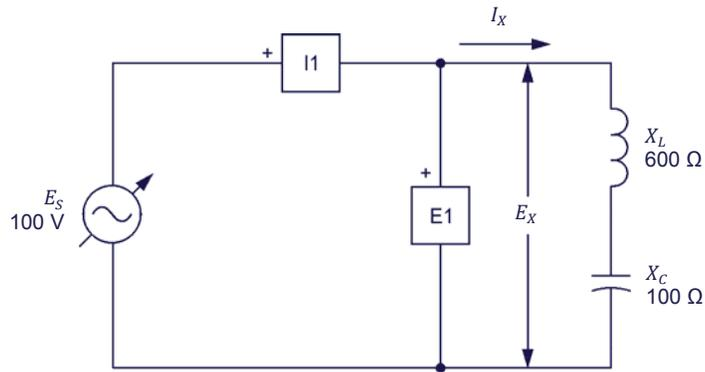

Figure 2-16. Series ac circuit containing an inductor and a capacitor.
6. Set up the circuit shown in Figure 2-16.
In this section, you will calculate the equivalent reactance  $X_{E_{\text{equi.}}}$  of the reactive components in the circuit of Figure 2-16. You will measure the voltage  $E_X$  and current  $I_X$  and calculate the equivalent reactance  $X_{E_{\text{equi.}}}$  from these values. Using the Oscilloscope, you will determine the phase relationship between the voltage  $E_X$  and current  $I_X$  and whether the equivalent reactance is inductive or capacitive. You will then interchange the inductive and capacitive reactance values in the circuit and repeat the previous manipulations. You will determine the relationship between the polarity of the equivalent reactance  $X_{E_{\text{equi.}}}$  of the reactive components and the nature of the equivalent reactance (inductive or capacitive).